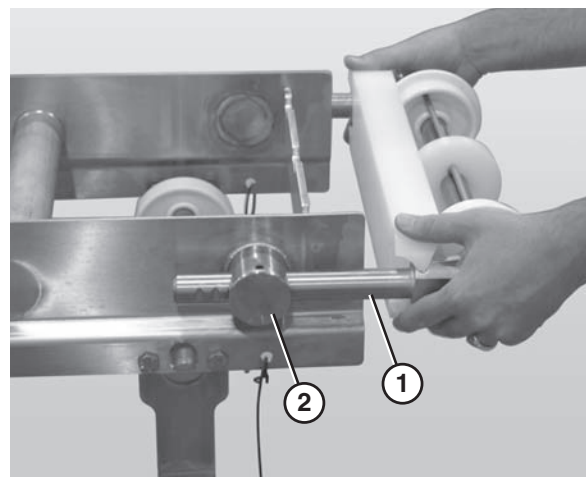

Figure 23
1. Slide the bearing shafts (Figure 23, item 1) into the take up blocks (Figure 23, item 2).